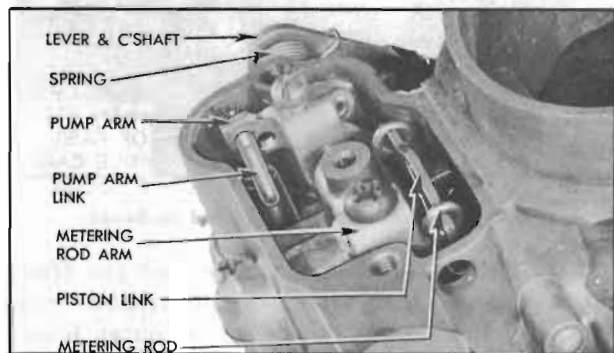

Figure 3-32—Metering Rod and Pump Operating Parts
5. Remove pump rod spring clips and pump rod. Remove dust cover. Rotate eyes of metering rods off pins on vacuumer piston link and lift rods out, using care to avoid bending them. See figure 3-32.
pump arm link attached to arm. See figure 3-32.